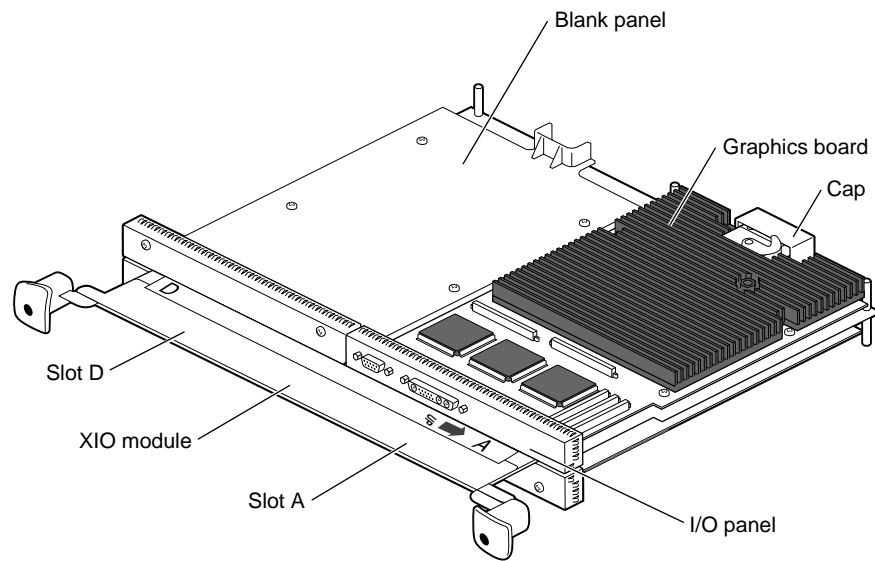

Figure 5-11 Identifying the Slots Used by an XIO Board
Graphics boards may use one slot (A) or two (D and A). Figure 5-11 shows the OCTANE/SI graphics board in Slot A. Graphics boards using two slots have the I/O connector positioned in slot A.